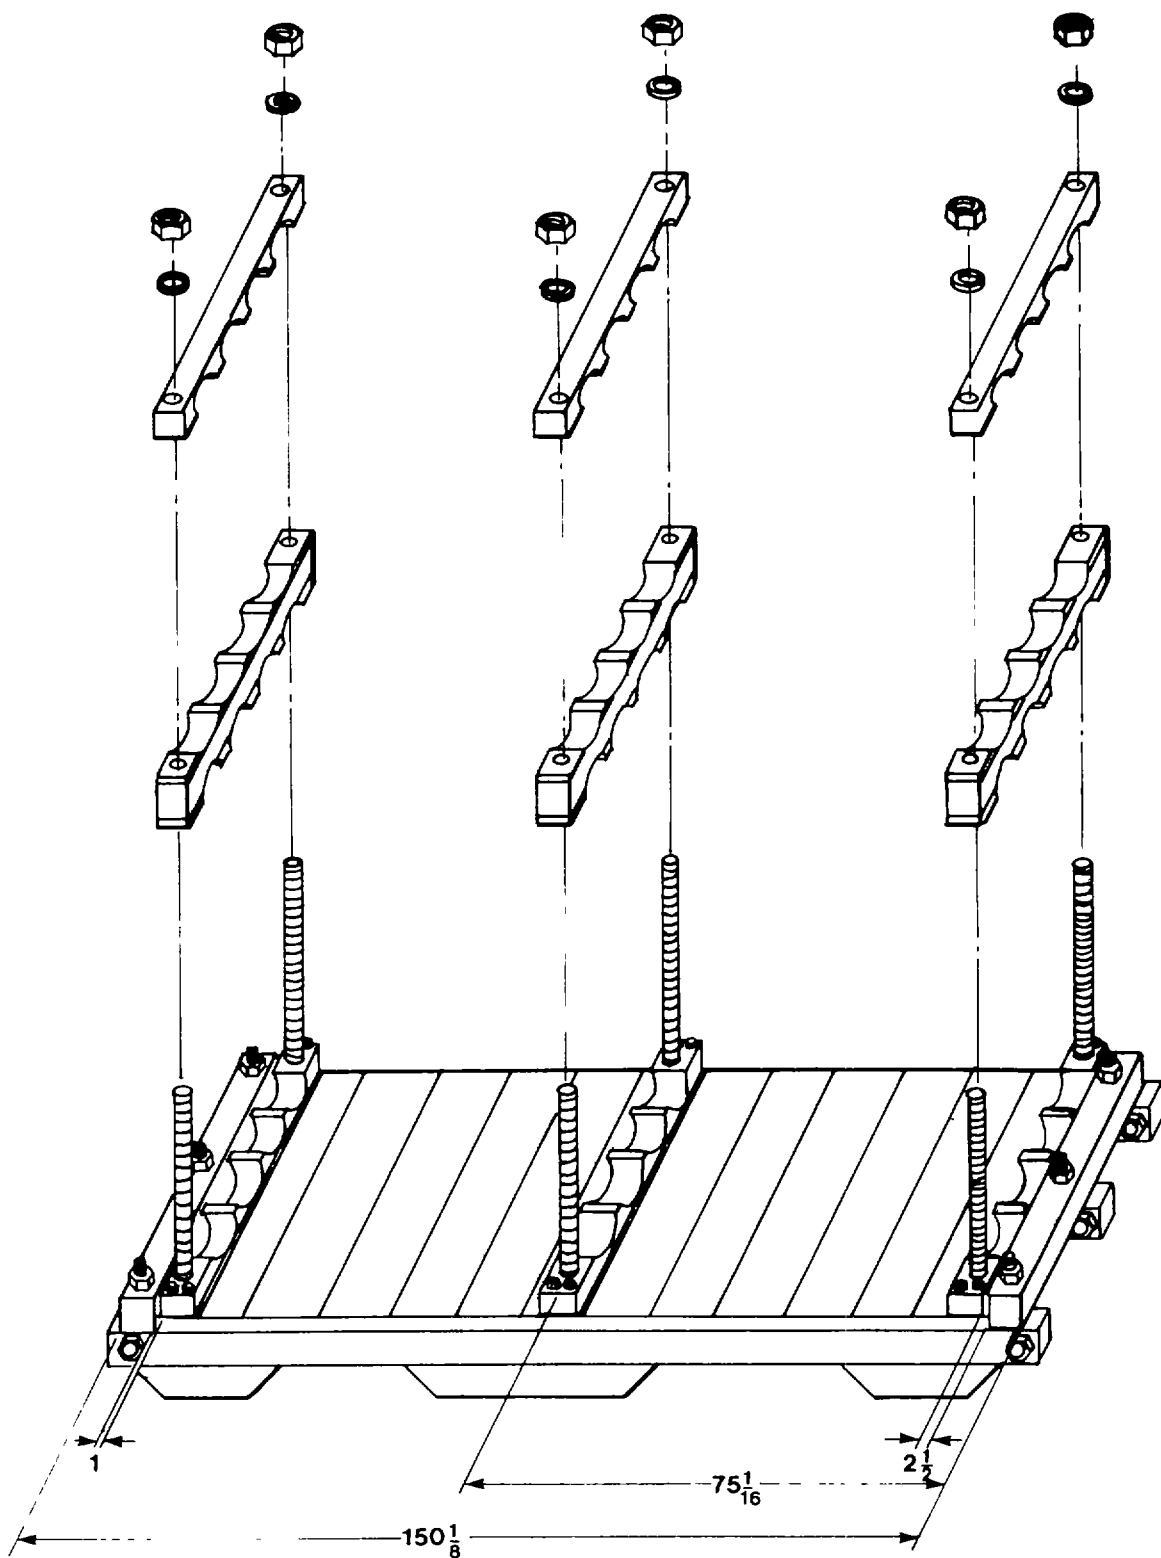
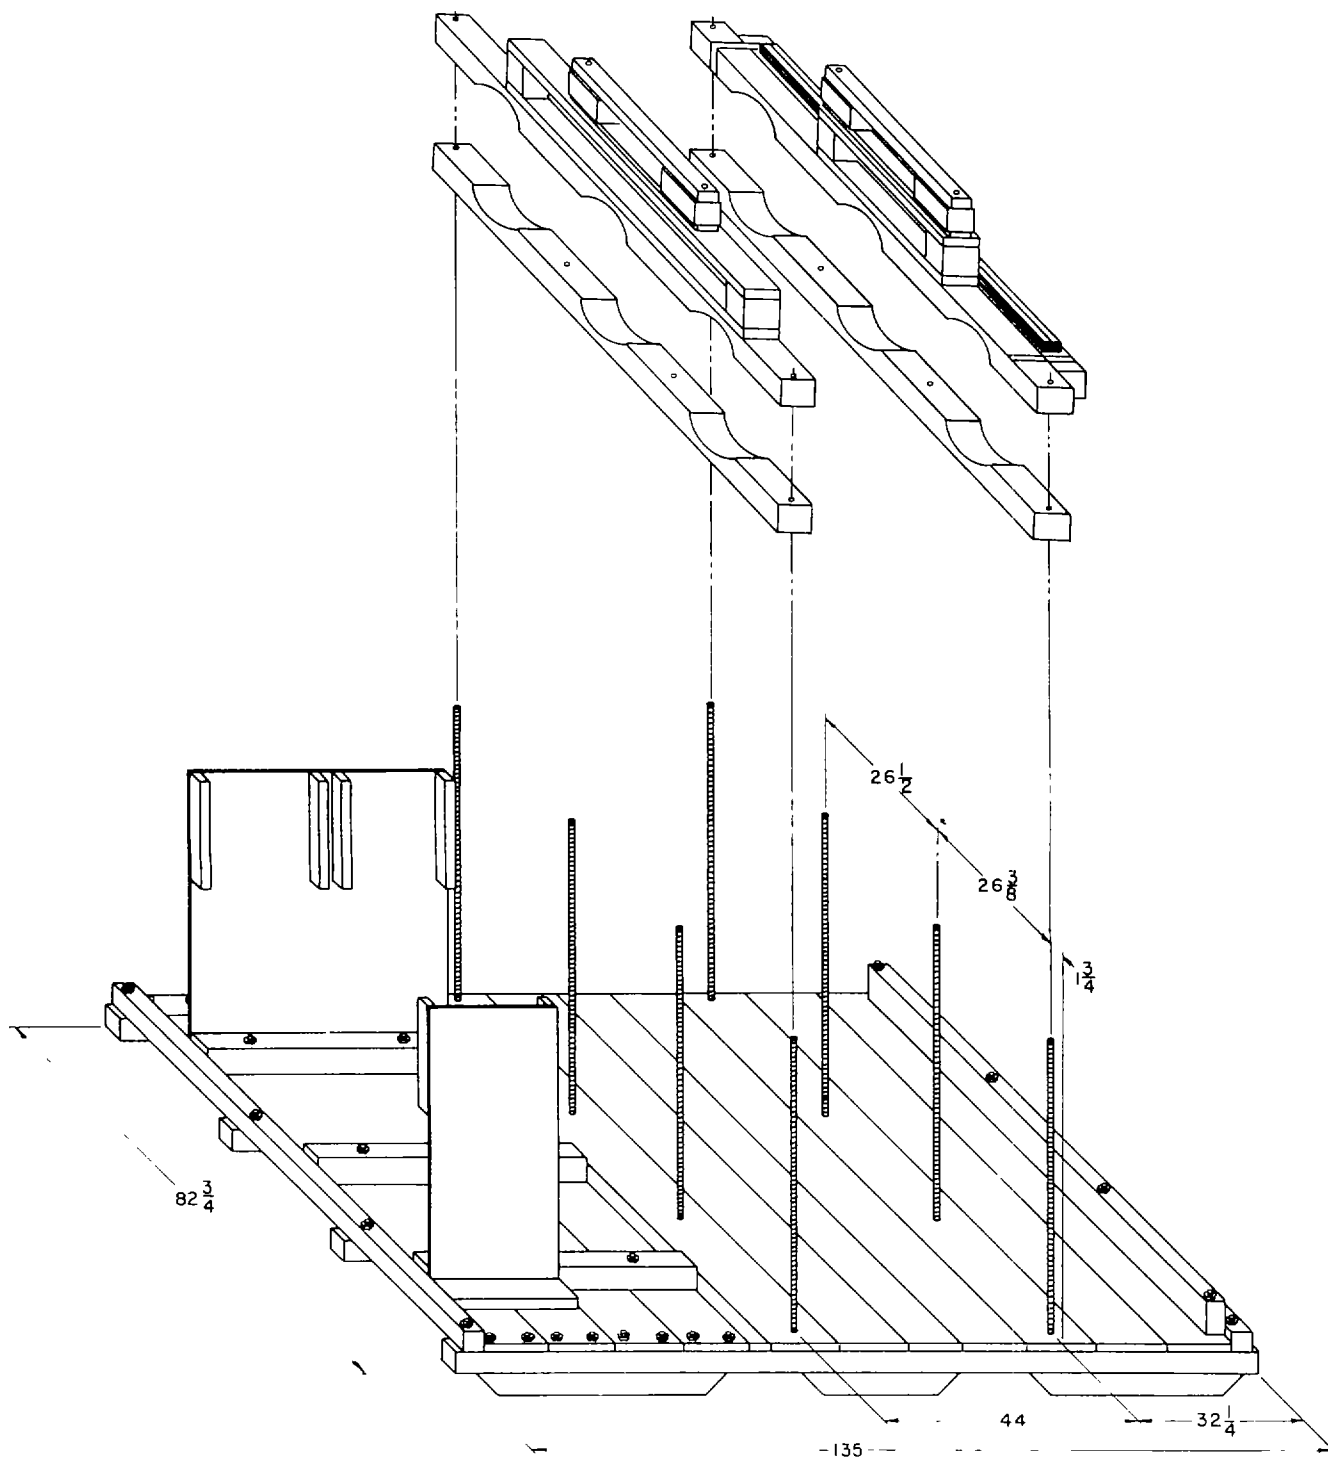
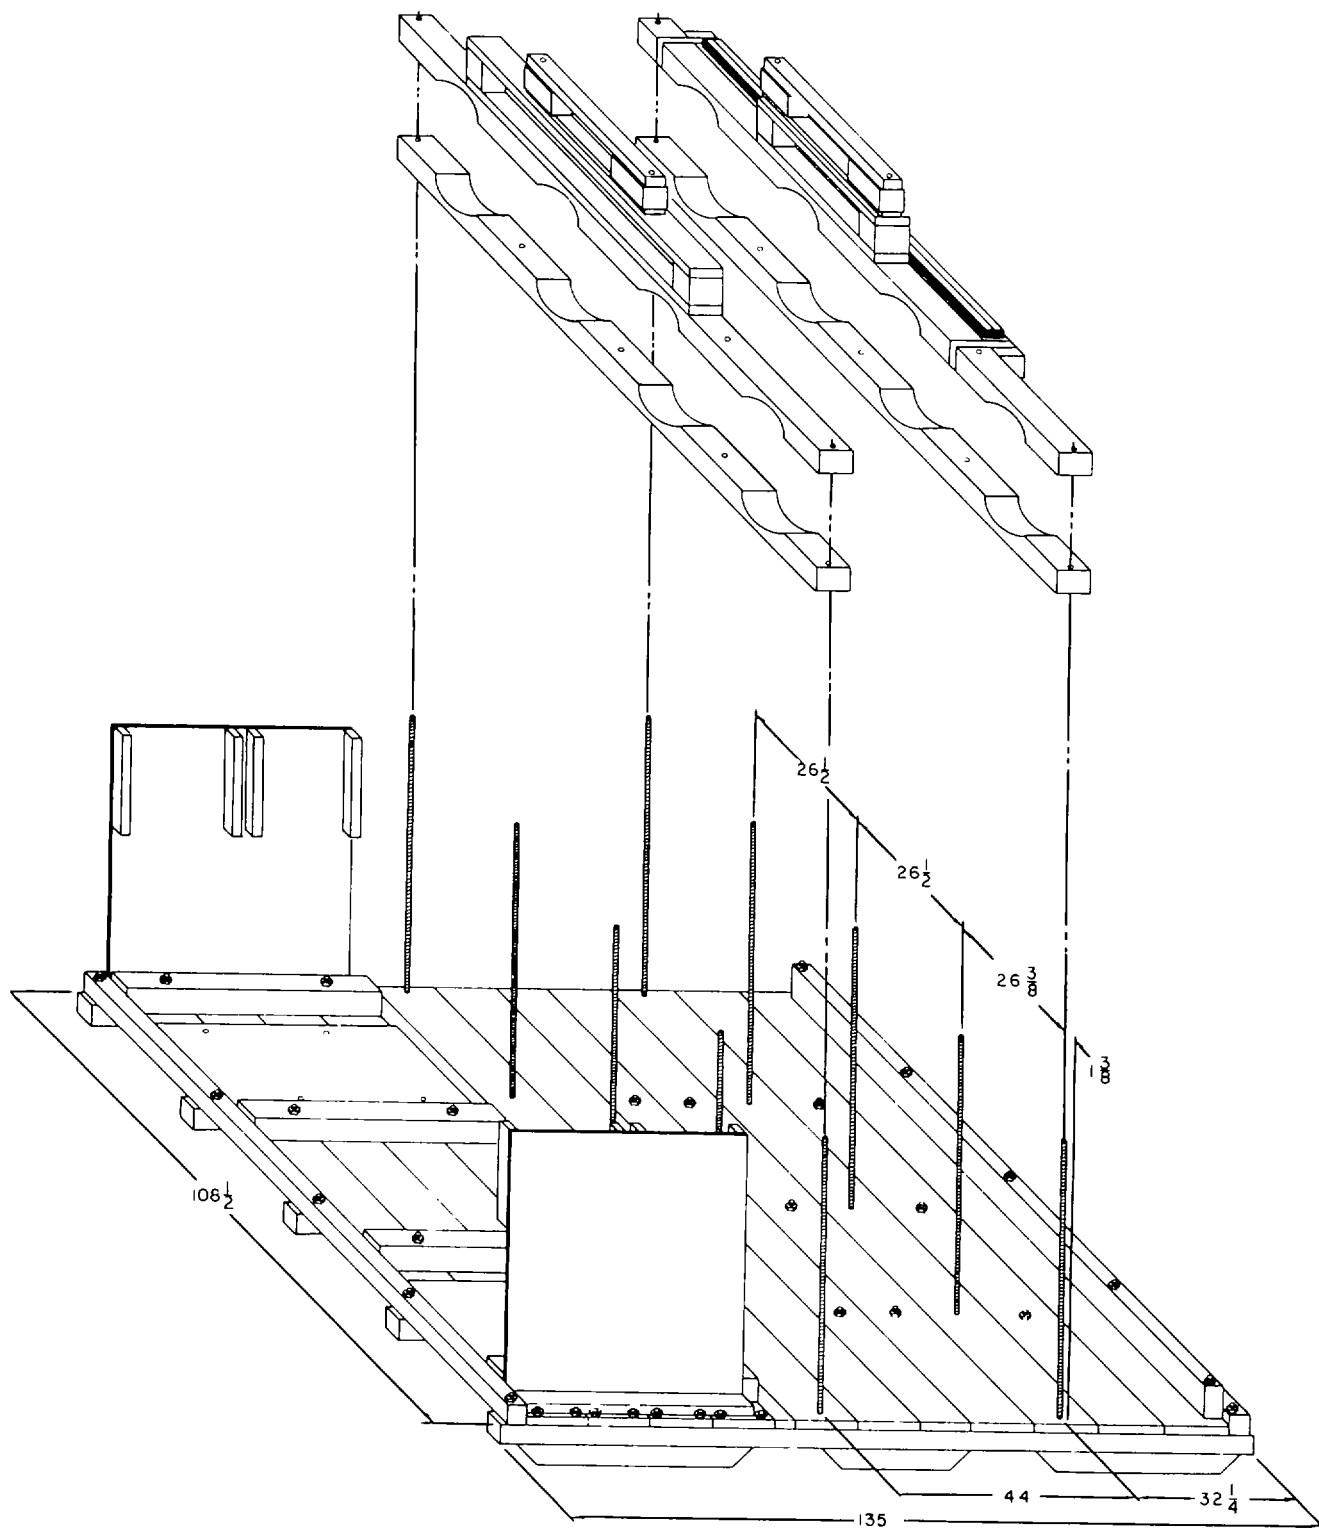

Figure B-2-7. Location of Blocking for the Exhaust Pipes (2000 KW).
Figure B-2-8. Location of Blocking for the Silencers and Accessories (1500 KW).
Figure B-2-9. Location of Blocking for the Silencers and Accessories (2000 KW).
2 cont	<p>(2) Place exhaust pipes into cradles and secure with FF-W-92 washer and FF-N-836 nuts.</p> <p>(3) Place crate top over exhaust pipes and secure to base with FF-W-92 washer and FF-B-561 lag bolts (1/2 x 4).</p> <p>(4) Mark container in accordance with appendix E and the following: Mark all four sides of the container with 2-inch minimum size letters to indicate "REUSABLE CONTAINER - DO NOT DESTROY."</p> <p>m. Packing for the Exhaust Pipes for 2000 KW.</p> <p>(1) Fabricate a MIL-C-104 crate (158 x 70-1/4 x 45) and cradles in accordance with appendix D-3 and figure B-2-7. Refer to table B-2-9 for a list of materials.</p> <p>(2) Place exhaust pipes into cradles and secure with FF-W-92 flat washer and FF-N-836 nuts.</p> <p>(3) Place crate top over exhaust pipes and secure to base with FF-W-92 washer and FF-B-561 lag bolts (1/2 x 4).</p> <p>(4) Mark container in accordance with appendix E and the following: Mark all four sides of the container with 2-inch minimum size letters to indicate "REUSABLE CONTAINER - DO NOT DESTROY."</p> <p>n. Packing for the Silencers, Elbows, Gaskets, and Exhaust Supports for the 1500 KW.</p> <p>(1) Fabricate a MIL-C-104 crate (133-1/2 x 82-1/2 x 51-1/2) and cradles in accordance with appendix D-3 and figure B-2-8. Refer to table B-2-10 for a list of materials.</p> <p>(2) Secure flat piece of the exhaust support to the base with FF-W-92 washer and FF-N-836 nuts.</p> <p>(3) Place silencers into cradle and secure with threaded rod and FF-N-836 nuts.</p> <p>(4) Bolt elbows to base and upright panels with FF-B-584 bolt (1/2 x 4).</p>
2 cont.	<p>(5) Place gaskets in a PPP-B-636 fiberboard box (15-1/2 x 15-1/2 x 2) and seal box lid with PPP-T-76 tape. Secure to upright panel which supports the elbows with QQ-S-781 steel strapping, edge protector and seals.</p> <p>(6) Place the "Y" braces and bars of the exhaust support in the top cradle and secure with FF-N-836 nuts.</p> <p>(7) Install blocking and bracing. Refer to figure B-2-8 for fabrication and location details.</p> <p>(8) Place crate top over base and secure with FF-W-92 washer and FF-B-561 lag bolts (1/2 x 4).</p> <p>(9) Mark container in accordance with appendix E and the following: Mark all four sides of the container with 2-inch minimum size letters to indicate "REUSABLE CONTAINER - DO NOT DESTROY."</p> <p>o Packing for the Silencers, Elbows, Gaskets, and Exhaust Supports for the 2000 KW.</p> <p>(1) Fabricate a MIL-C-104 crate (133-1/2 x 109-1/4 x 51-1/2) and cradles in accordance with appendix D-3 and figure B-2-9. Refer to table B-2-11 for a list of materials.</p> <p>(2) Secure flat piece of the exhaust support to the base with FF-W-82 flat washer and FF-t-836 nuts.</p> <p>(3) Place silencers into cradle and secure with FF-N-836 nuts.</p> <p>(4) Bolt elbows to base and upright panels with FF-B-584 bolts (1/2 x 4).</p> <p>(5) Place gaskets in a PPP-B-636 fiberboard box (15-1/2 x 15-1/2 x 2). Seal box lid with PPP-T-76 tape. Secure to upright panels which support the elbows with QQ-S-781 steel strapping, edge protectors, and seals.</p> <p>(6) Place bars of the exhaust support and the "Y" braces in the top cradle and secure with FF-W-92 washer and FF-N-92 nuts.</p> <p>(7) Install blocking and bracing. Refer to figure B-2-9 for fabrication and location details.</p>